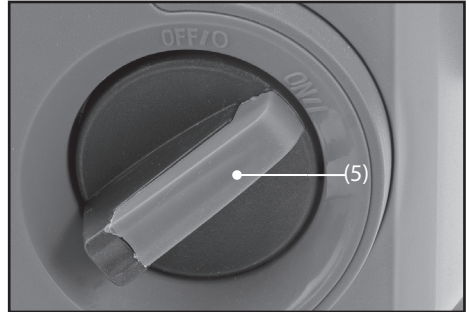

FIG.22
10.2 SWITCHING ON – FIGS. 22 – 25